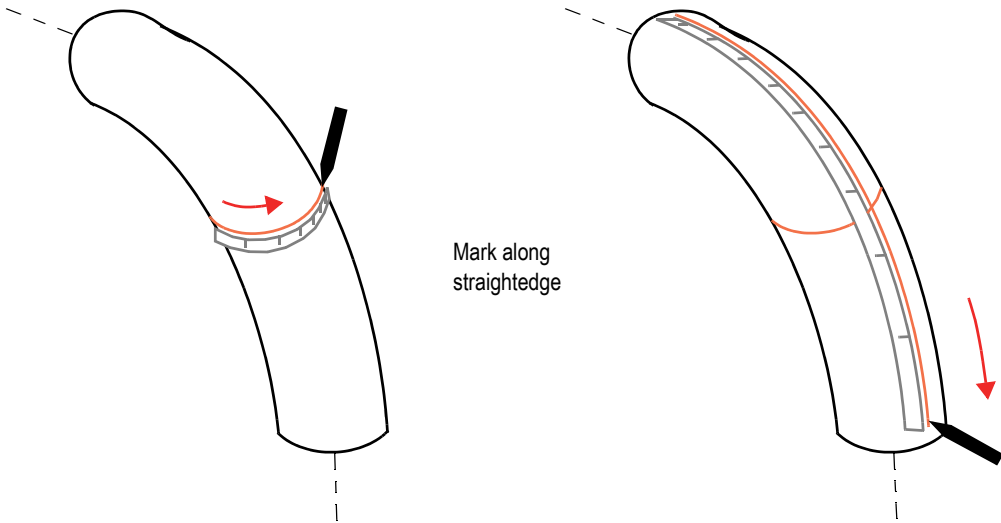

Figure 3-5 Marking the zero position (*left*) and scan (*right*) lines on an elbow
2. Determine your zero position (the middle, or center, of the scan line), and then draw your zero line perpendicular to the part’s longitudinal axis, using the flexible straightedge wrapped around the circumference as a guide (see left illustration in Figure 3-5 on page 34).
parallel to the part's longitudinal axis (see right illustration in Figure 3-5 on page 34).